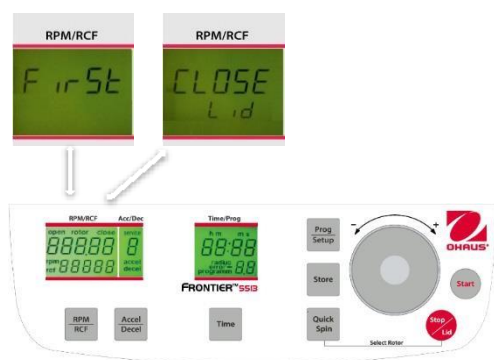
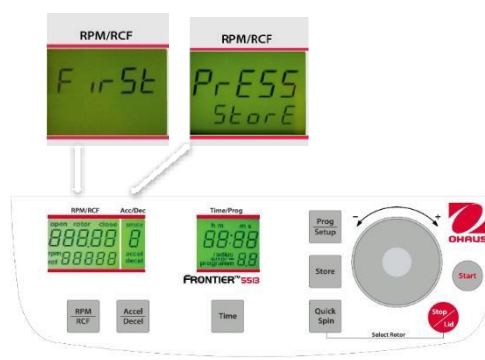

Figure. 20
Figure. 21
Close the lid of the centrifuge. Now proceed as described previously to set all important run parameters. If the lid isn't closed when storing the program, in the display **"RPM/RCF"** (A-1), the words **"FirSt"** and **"CLOSE Lid"** (see figure 20) flashes alternately. If you want to start the run without storing the program, in the display **"RPM/RCF"** (A-1), the words **"First"** and **"PrESS StoreE"** (See figure 21) flashes alternately.
For adaption of data press the key **"Store"** (2) (refer to figures 20 and 21) for approx. 1 second. If the program is stored correctly, the word **"StoreE"** appears in the display **"RPM/RCF"** (A-1). As a result, the word **"programm"** (M10) disappears.
You can start the centrifuge either with the **"Start"** key (10) (refer to figure 21) or the **"Quick Spin"** key (8).